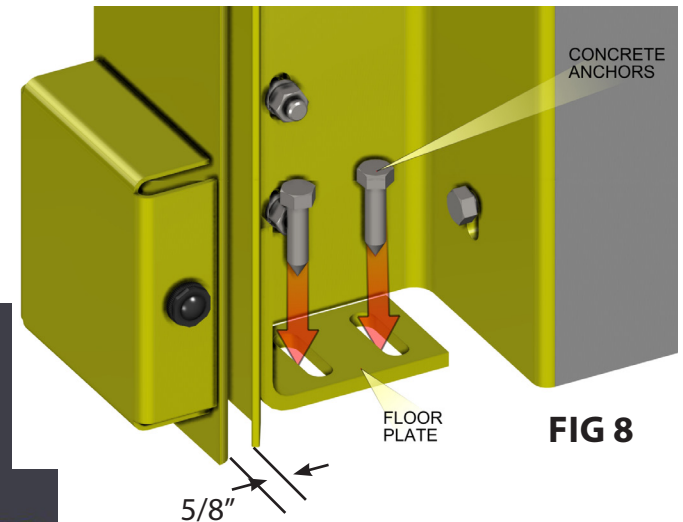

FIG 8
- Install concrete anchors through floor plate and into floor on both guides. See **FIG 8**.